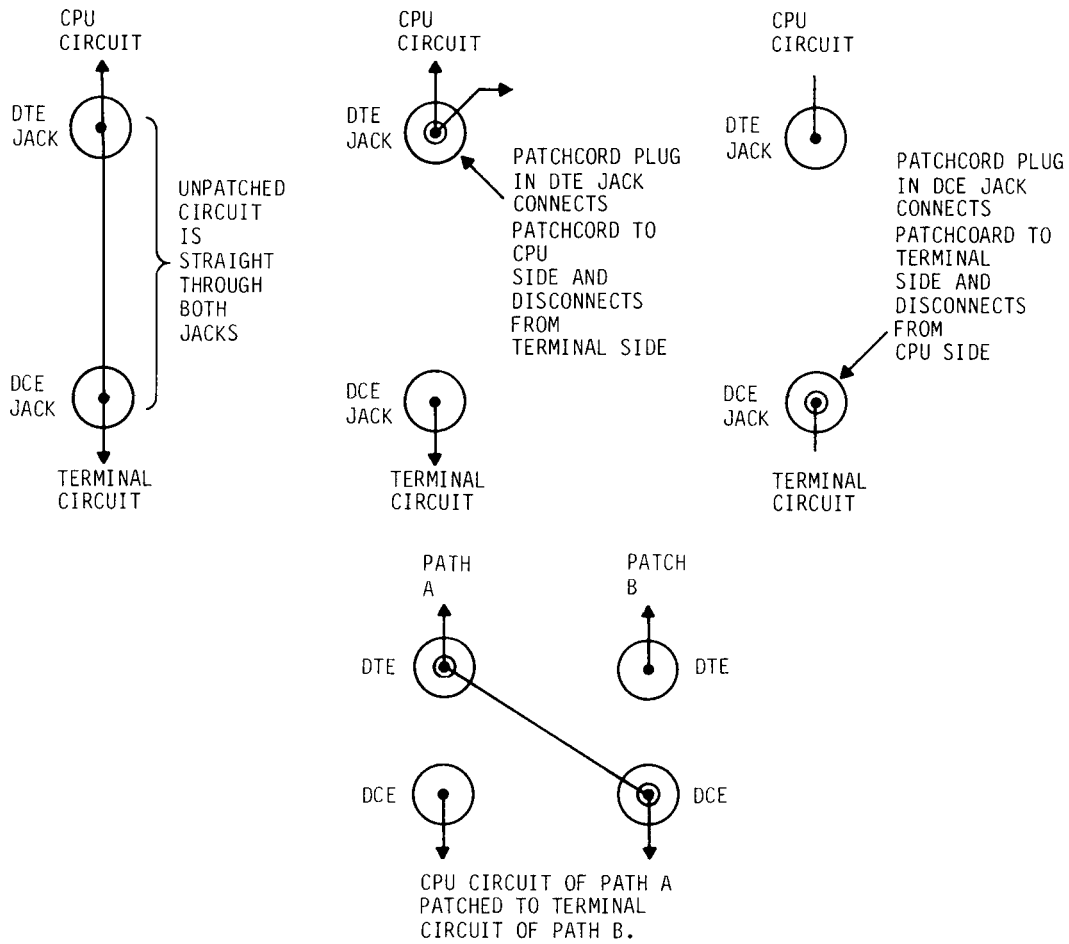

Figure 2-21. Circuit Patching
(3) The 600GR converter uses a balanced voltage signal transmission technique. Transmission over metallic wire pairs is limited to a distance of two kilometers. The converter is capable of transmitting and receiving data up to 9600 baud in a full duplex, 4-wire mode.
(4) The quasi-analog modem uses a frequency-shift keyed transmission technique. Transmission over direct lines to a remote unit is limited to a distance of ten kilometers. Data rates of 300, 600, and 1200 baud are selectable by switching of jumpers provided on the boards.
(5) The device switch that selects either the modem or the converter for operation, switches data lines on both the DTE and the DCE side of the circuit. In this way, the unused device is isolated from the data path. The switch does not control power to either circuit.
(6) All patch modules in cabinet B are electrically identical. Circuit-to-circuit patches are made with patch cords having plugs on both ends. There is a normal circuit through each patch module that is closed when no patch cord is inserted in the jack. Patch-plug contacts are engaged when the plug is seated in the jack. The through circuit is interrupted before the patch connection is completed. The plug is turned in the jack to lock and unlock the connection.
(7) Each patch module has three jacks - one marked DTE (data terminal equipment), one marked DCE (data communications equipment), and the remaining one marked MONITOR (fig. 2-21). Plugging into the DTE jack makes a connection to the terminal (CPU) local side of the circuit and disconnects the communications equipment (remote) side. Plugging in the DCE jack connects the communications side and disconnects the terminal side. Patches are made between the terminal side (DTE) of one circuit and the communications equipment (DCE) of another circuit. Plugging in the MONITOR jack with a monitoring plug provides a constant visual LED display of carrier detect, receive, or send data signals.